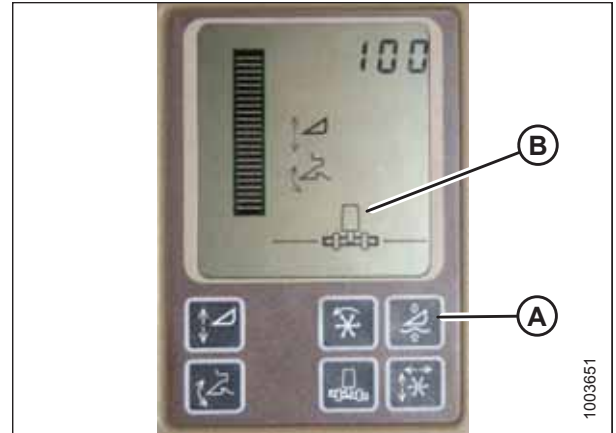

Figure 3.421: John Deere Combine Display
Do **NOT** use the active header float function (A) in combination with the MacDon auto header height control (AHHC)—the two systems will counteract one another. Header symbol (B) on the display should **NOT** have a wavy line under it and should appear exactly as shown on the Active Header Control Display in Figure 3.421, page 243.